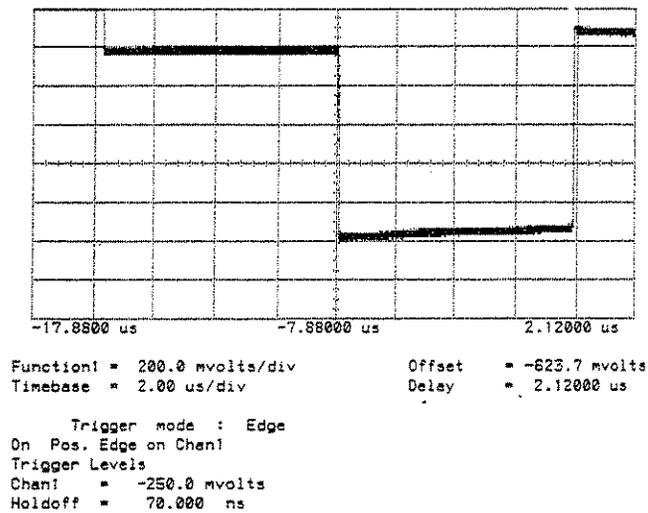

Figure 8-39 Isolated Negative Pulse
- Adjust the Oscilloscope to obtain an isolated negative pulse as shown in Figure 8-39 and repeat step 5.